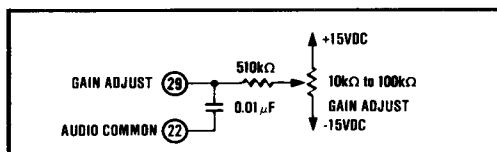

FIGURE 13. Connecting Optional Gain Adjust.
**GAIN**—Connect the Gain adjust potentiometer as shown in Figure 13. Sweep the input through the end point transition voltage that should cause an output transition to all bits on ( $E_{IN}^{ON}$ ). Adjust the Gain potentiometer until the actual end point transition voltage occurs at  $E_{IN}^{ON}$ . Table I details the transition voltage levels required.